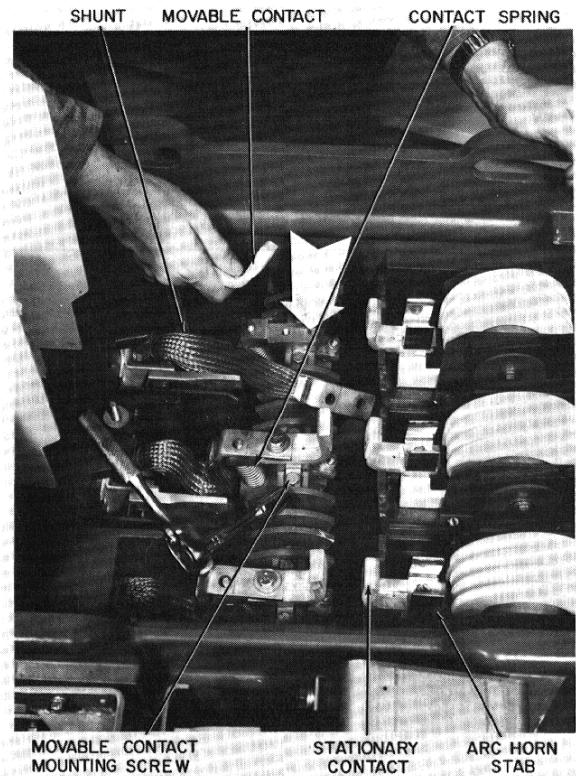

Fig. 19. Contactor open for servicing. Arrow points to pin for locating power contacts
3. With a socket wrench, loosen bolt securing contact. Since the contact is slotted (see Fig. 6) raise the contact to clear the locating pin as shown in Fig. 19. When loosening the bolt, on the stationary contact, care should be taken so that the dimension across the arc-horn stab is not disturbed. Do not remove bolts.
The contact springs (see Fig. 19) must be replaced if they have been overheated from interruptions above the contactor ratings or damaged from rough handling. Contactors having contact springs with a grayish-black color should have the contact pressures checked per Table 2 as they have probably been overheated. Any initial and final contact forces outside of those of Table 2 will require that the springs be replaced. These spring forces are necessary to allow the contactor to properly make, carry, and interrupt electric power.
To replace a contact spring, remove the movable-contact assembly from the shaft by loosening the hardware shown in Fig. 19.